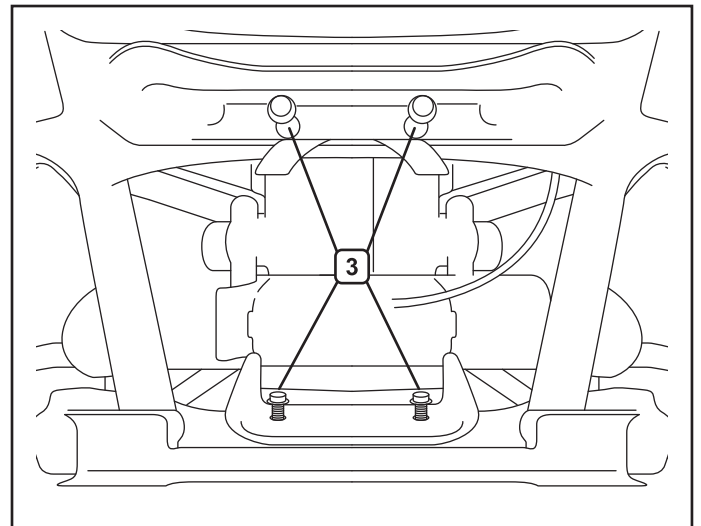

Figure 3.
2. Remove four bolts (3) from differential bracket. See figure 3.